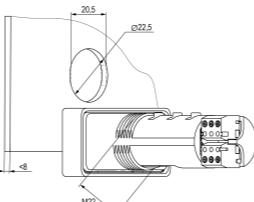

Fig. 2 Mounting cutout
- Prepare the mounting cutout with Ø of 22.5 mm in the switchboard where the device should be mounted (see Fig. 2).